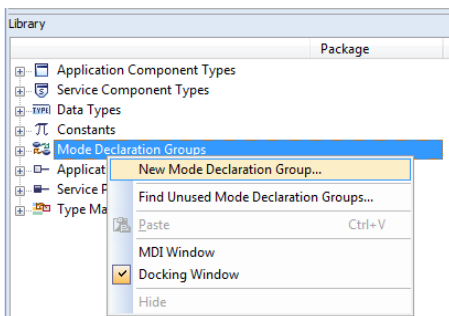

Figure 4-39 New mode declaration group
- It is possible to create mode declaration groups in DaVinci Developer by right-clicking “Mode Declaration Group” library and selecting “New Mode Declaration Group...” (see Figure 4-39).